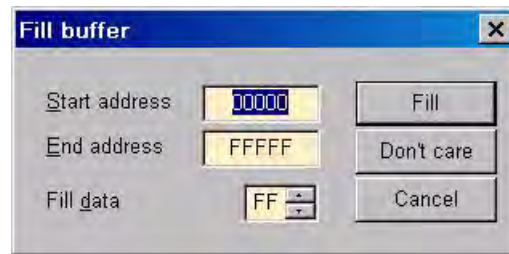

Figure 75. Fill Buffer Dialog
1. Select **Load Code HEX File** from the **HexData** menu to load a hexadecimal file from the host PC to a code buffer space generated by the In-System Programmer. The Fill Buffer dialog appears, as shown in Figure 75.